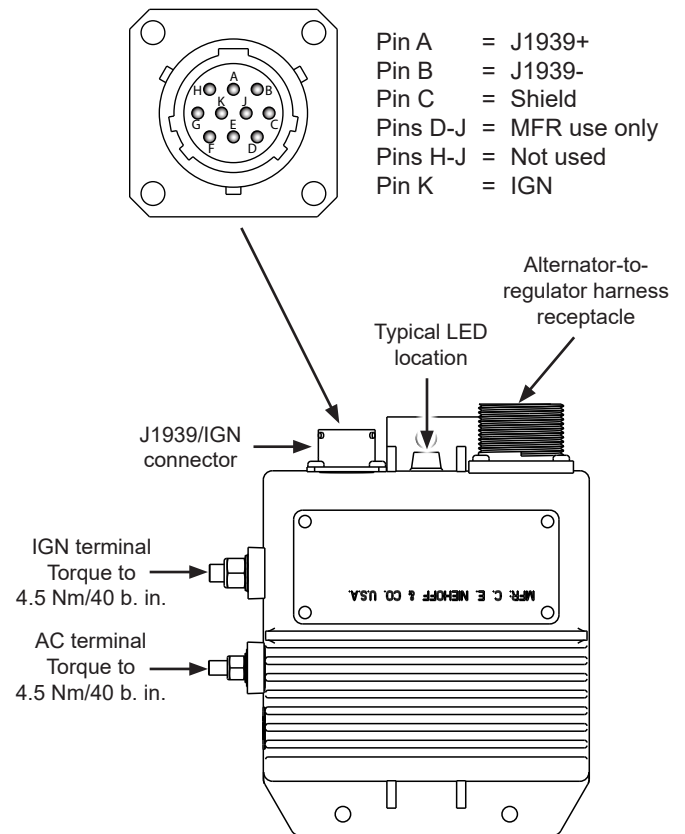

Figure 5: Regulator Physical Features
2. Securely plug alternator-to-regulator harness into receptacle on regulator. See Figure 5.
- **Regulator IGN terminal** (required) must receive voltage from vehicle DC ignition source or multiplex system in order to energize charging system. Alternatively, this signal can be connected via pin K on J1939/IGN connector. See Figure 5.
- **Regulator R/P/AC terminal** (if required) taps AC voltage from alternator, typically half the charge voltage (3A maximum). R/P/AC terminal provides alternator RPM frequency at 10:1 ratio for use with tachometer. Torque terminal hardware to 4.5 Nm/40 lb. in. See Figure 5.
4. Connect vehicle J1939/IGN communication harness to J1939/IGN connector. See Figure 5.